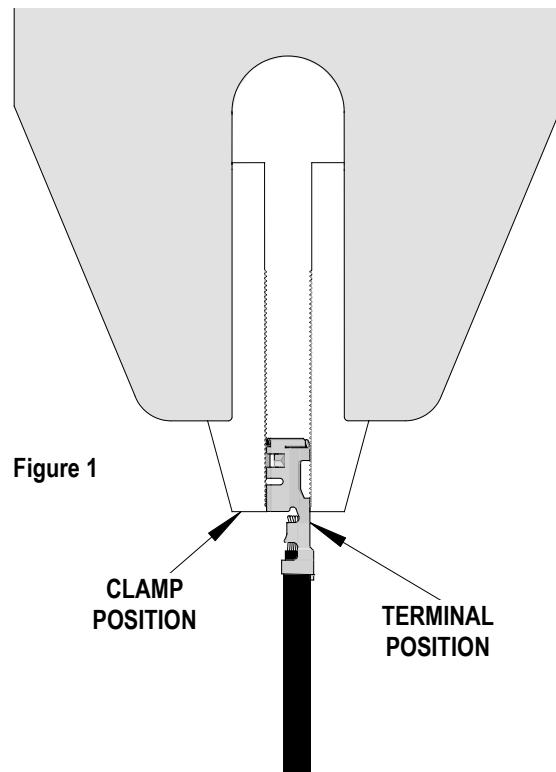

Figure 1
4. Use the recommended pull force clamping technique to achieve the maximum pull force result. See Figure 1.